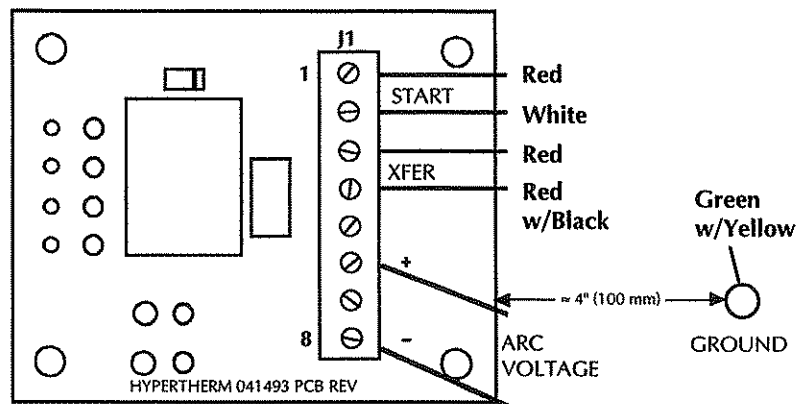

Figure 9 - Machine Interface Board
16. Connect the green with yellow wire from the internal machine interface cable to the ground screw located near the machine interface board - Fig. 9.
17. See Fig. 9 and connect the remaining internal machine interface cable wires to the J1 terminal on the machine interface board.
Note: If arc voltage is necessary for activating a torch height control, the customer must supply an 18AWG, single pair, unshielded cable with a rating of 300V or greater. The arc voltage signal on the machine interface board can be accessed by feeding the arc voltage cable through the small strain relief and connecting the cable wires as shown in Fig. 9.